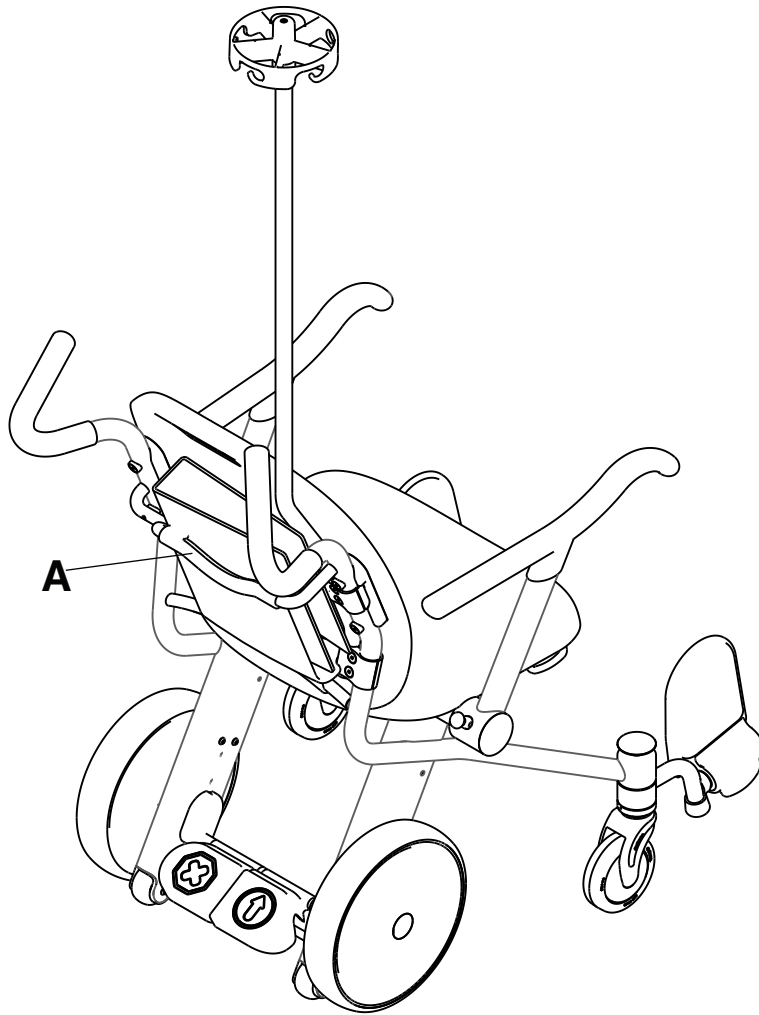

Figure 10 – Storing records in the chart holder
Use the chart holder to store and transport occupant records (A) (Figure 10). The chart holder holds a 3-inch, three-ring binder.